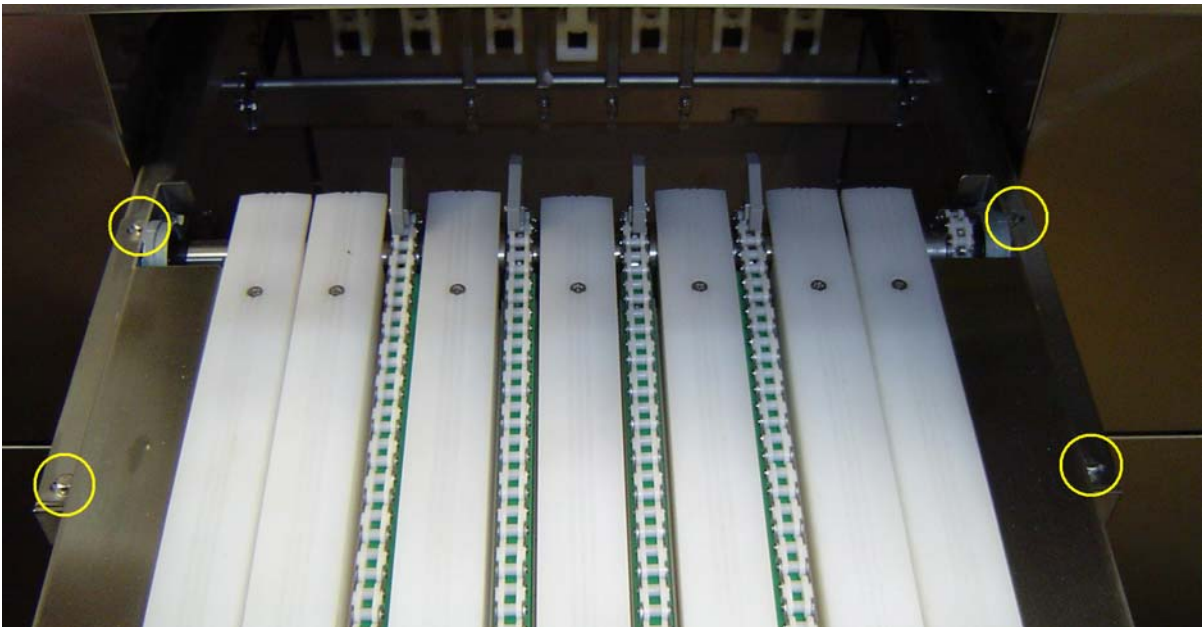

Figure 2. Infeed Conveyor mounting bolts.
- d. Remove bolts mounting Conveyor to slide rails -- 4 bolts, two each rail. **[See Figure 2]**